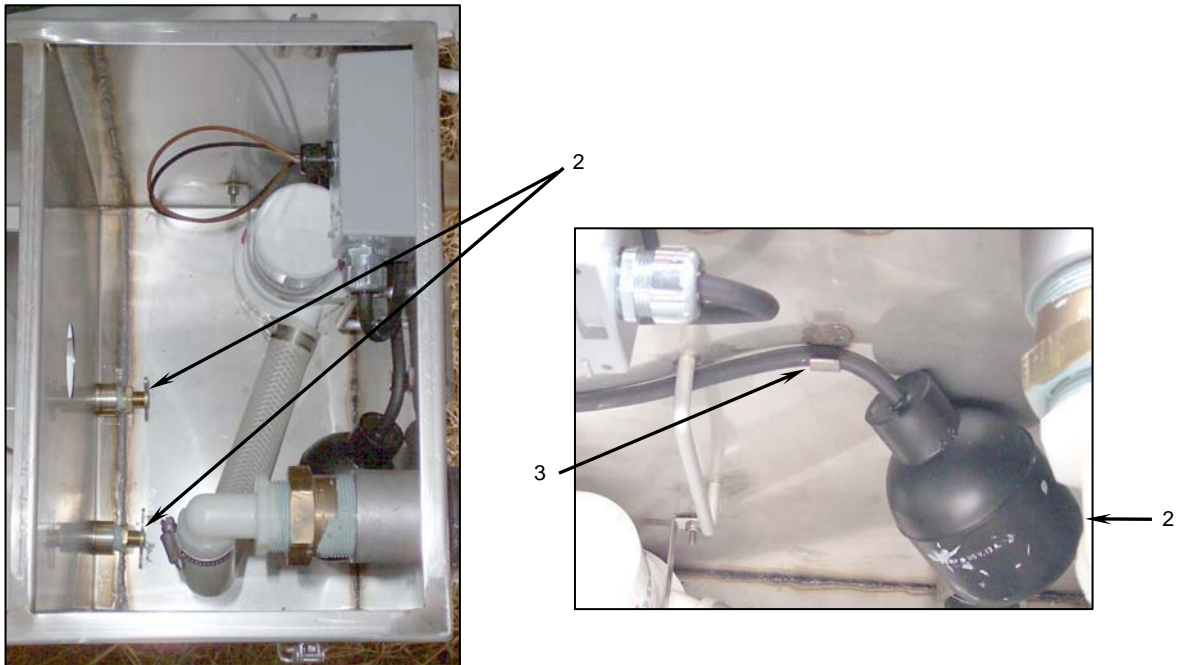

Figure 2. Emptying Water from the Grease Separator.
6. Empty the water from the grease separator by opening the drain petcocks (**Figure 2, Item 1**) located in the pump section. Get as much water out of the grease separator as possible by lifting the pump float switch (**Figure 2, Item 2**) and setting the float cable in the holding hook (**Figure 2, Item 3**).